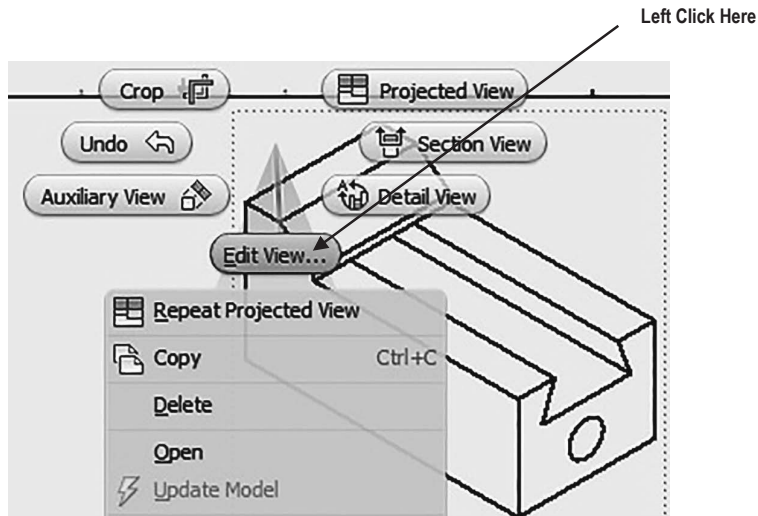

Figure 25
30. After the red dots appear, right click once. A pop-up menu will appear. Left click on **Edit View** as shown in Figure 25.